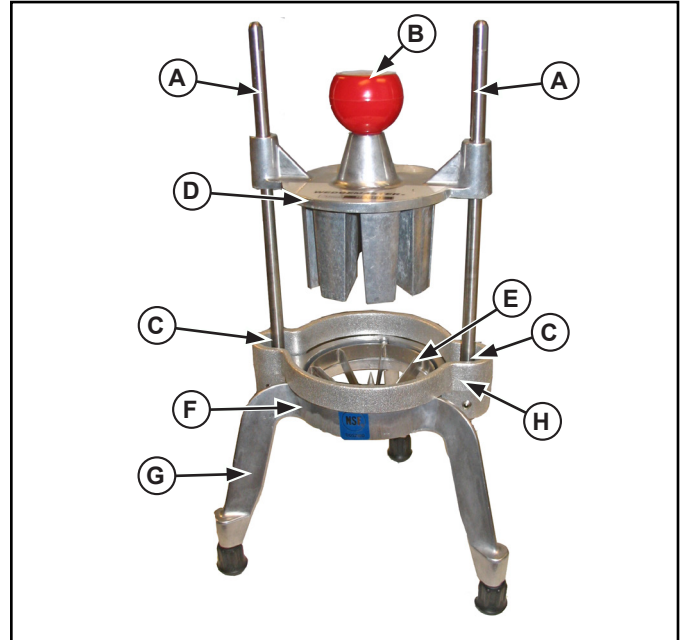

Figure 1. Features and Controls.
3. Before each use, check for proper blade alignment. Slowly set the pusher head (D) onto the blade assembly (E). See Figure 1. They should slide together with no obstructions. If there are obstructions, verify they are a matching set. Remove the obstruction.
6. Lift the handle (B) and place the food on the blade assembly (H) (center spike for wedge blades).
7. Remove hand from the blade assembly (H) area and place that hand on one of the legs (F).
1. Slide the pusher head assembly (D) off the rod guides (A). Figure 1.
2. Remove the safety guard (H) (some models).
3. Remove the screws securing the blade assembly (E).
4. The blade assembly (E) is best cleaned by forcing water under pressure through the blades from the unsharpened side. If necessary, use a nylon bristle cleaning brush to push food particles out from the unsharpened side of the blade assembly (E).
8. Install the blade assembly (E) so the tabs on the blade assembly slide into the groves of the base assembly (F).
9. Secure the blade assembly (E) to the base assembly (F) using the screws removed earlier.
2. Remove the pusher head assembly (D) by sliding it off the rod guides (A). Figure 1.
3. Raise the bumpers approximately (C) 2" (5.0 cm).
4. Remove the screws securing the blade assembly (E) and discard the old blade assembly and retain the screws.
5. Install the new blade assembly (E) so the tabs slide into the groves of the base assembly (F).
7. Slide bumpers (C) down guide rods (A) to contact the base (F). Lubricate the guide bar with mineral oil or Petro Gel after each use. Do not use cooking oil as it will become sticky and may permanently damage the equipment.